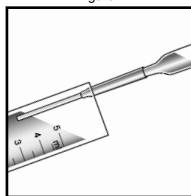

Figure 2
5. Holding the VACUette almost horizontally, touch the tip to the contents of the sample cup (fig 2).